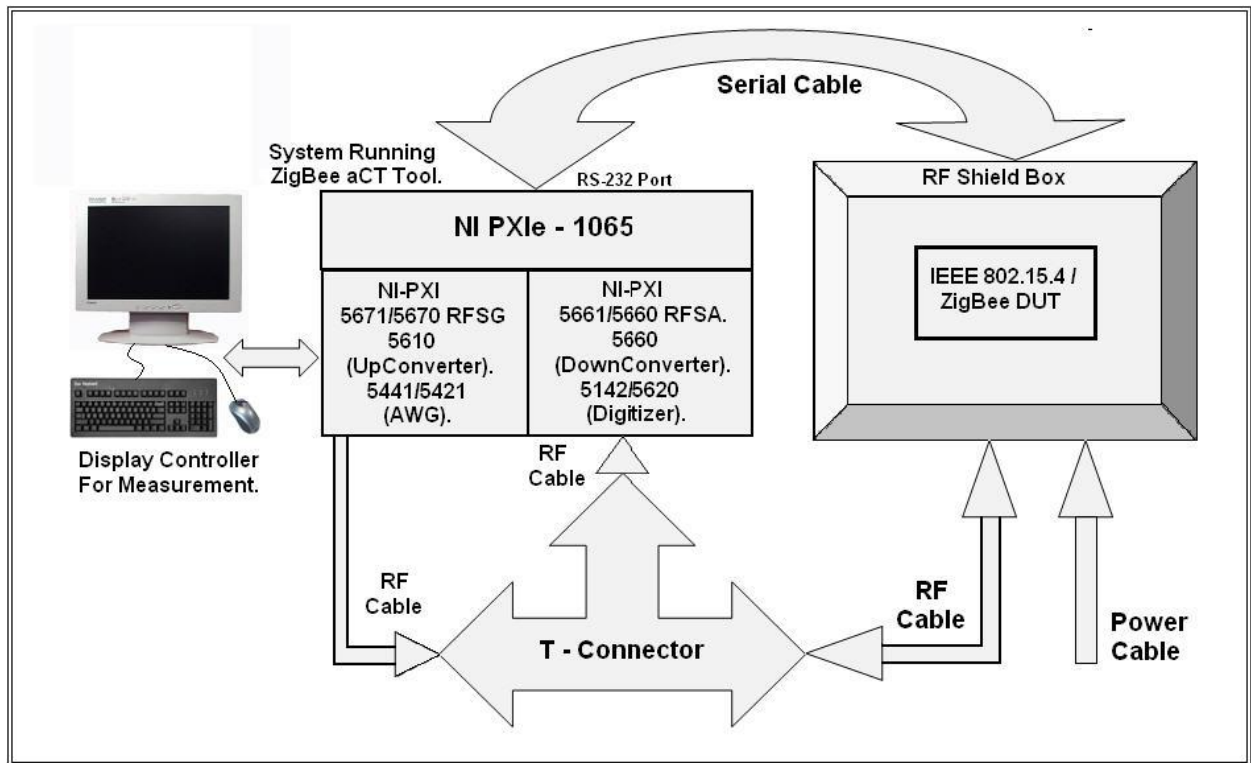

Figure 1: Set UP
1. Connect the Equipment for ZigBee aCT as shown in Figure 1: Set UP.